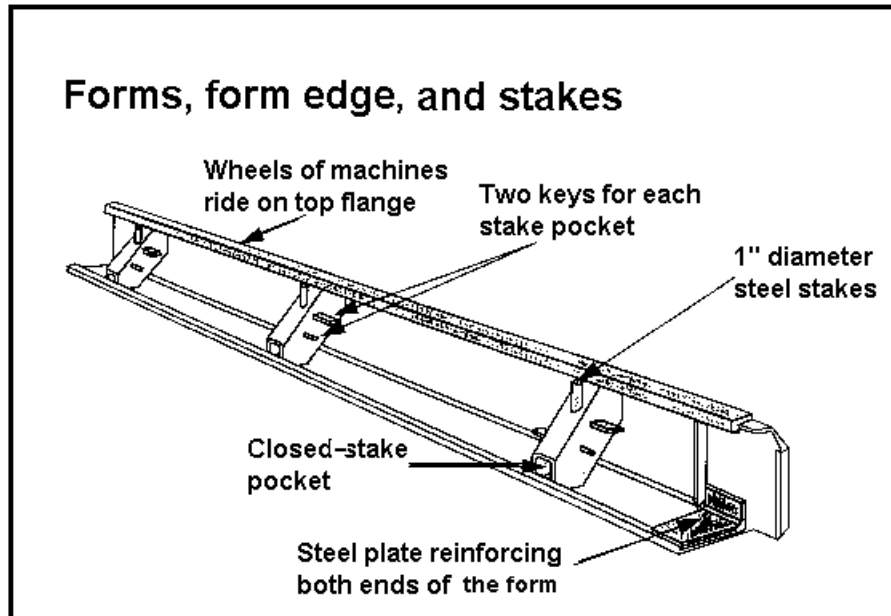

Figure 051-236-1166-1
- (1) Forms or form edges.
- (b) Steel-edge forms are positioned in the same manner as wooden forms. These forms can easily be connected together for long sides (Figure 051-236-1166-1).